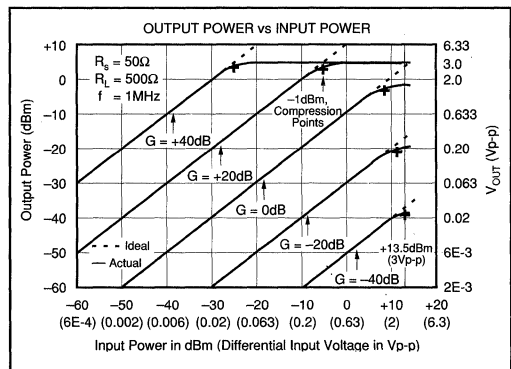

FIGURE 2. Input and Output Range.
NOTES: (1) See Input/Output Range discussion in Applications Information Section (Figure 2). (2) Gain is laser trimmed and tested over the -40dB to $+40\text{dB}$ gain range; $V_{IN} = 1\text{Vp-p}$ for gains less than 0dB ; $V_{OUT} = 1\text{Vp-p}$ for gains of 0dB to $+40\text{dB}$. (3) Output offset change from offset at $G = -40\text{dB}$. (4) Gain = $+40\text{dB}$; input step of 2V to 2mV ; time required for output to return from saturation to linear operation. (5) $V_{IN} = 7\text{mVp-p}$, $V_{OUT} = 700\text{mVp-p}$ (250mVrms); Output Power = $-10\text{dBm}/\text{tone}$, equal amplitude tones of $5\text{MHz} \pm 50\text{Hz}$, $G = +40\text{dB}$. See typical performance curves. (6) With $R_S = 0\Omega$, and noise bandwidth of 1MHz . $\text{IDR} = 20 \log (V_{\text{ORMS}}/(\theta_{\text{ORMS}} \times \sqrt{\text{BW}}))$; where V_{ORMS} is rms output voltage, θ_{ORMS} is output noise spectral density, and BW is noise bandwidth.
The VCA610's 80dB gain range allows the user to handle an exceptionally wide range of input signal levels. If the unit's input and output voltage range specifications are exceeded, however, signal distortion and amplifier overloading will occur. The VCA610's maximum input and output voltage range is best illustrated in Figure 2.
Figure 2 plots output power vs input power for five voltage gains spaced at 20dB intervals. The 1dBm compression points occur where the actual output power (solid lines) deviates by -1dBm from the ideal output power (dashed lines). Compression is produced by different mechanisms depending on the selected gain. For example, at $G = -40\text{dB}$, 1dBm compression occurs when the input signal approaches approximately 3Vp-p (13.5dBm for $R_s = 50\Omega$). Input overloading is the compression mechanism for all gains from -40dB to about -5dB. For gains between -5dB and +5dB, the compression is due to internal gain stage overloading. Compression over this gain range occurs when the output signal becomes distorted as internal gain stages become overdriven. At $G = 0\text{dB}$, 1dBm compression occurs when the input exceeds approximately 1.5Vp-p (7.5dBm). At gains greater than about 5dB, the compression mechanism is due to output stage overloading. Output overloading occurs
As shown in Figure 2, the onset of overload occurs whenever the actual output begins to deviate from the ideal expected output. If possible, the user should operate the VCA610 within the linear regions shown in order to minimize signal distortion and overload delay time. However, instances of amplifier overload are actually quite common in Automatic Gain Control (AGC) circuits which involve the application of variable gain to signals of varying levels. The VCA610's design incorporates circuitry which allows it to recover from most overload conditions in 200ns or less. Overload recovery time is defined as the time required for the output to return from overload to linear operation following the removal of either an input or gain control overdrive signal.